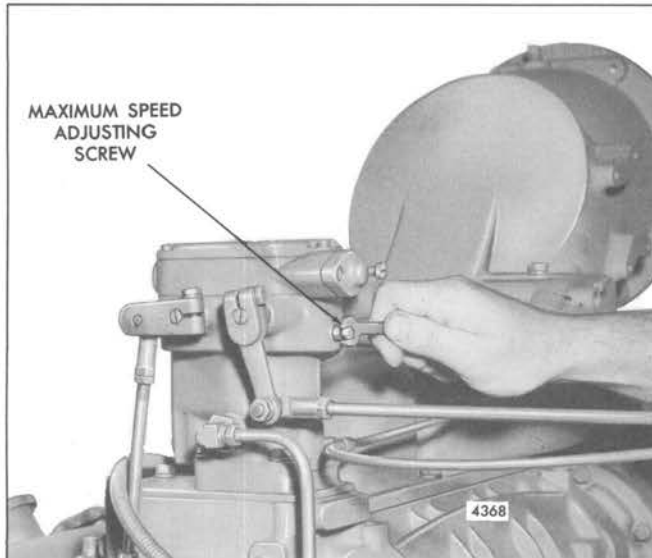

Fig. 9 – Adjusting Maximum No-Load Engine Speed
6. Loosen the locknut on the maximum speed adjusting screw and turn the screw out until $5/8$ " of the threads are exposed (Fig. 9).
2. Turn the maximum speed adjusting screw (Fig. 9) in until the screw contacts the throttle linkage internally, limiting the maximum speed of the engine at 8% above the rated full load speed.